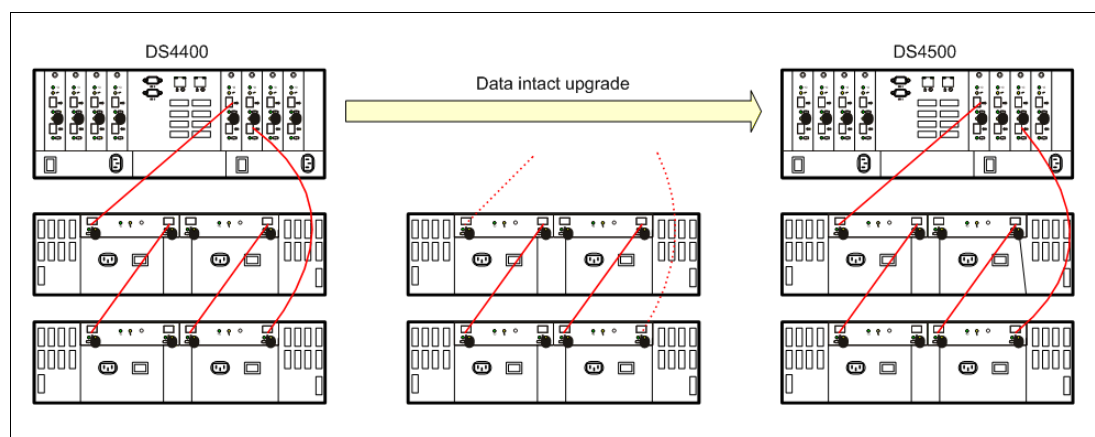
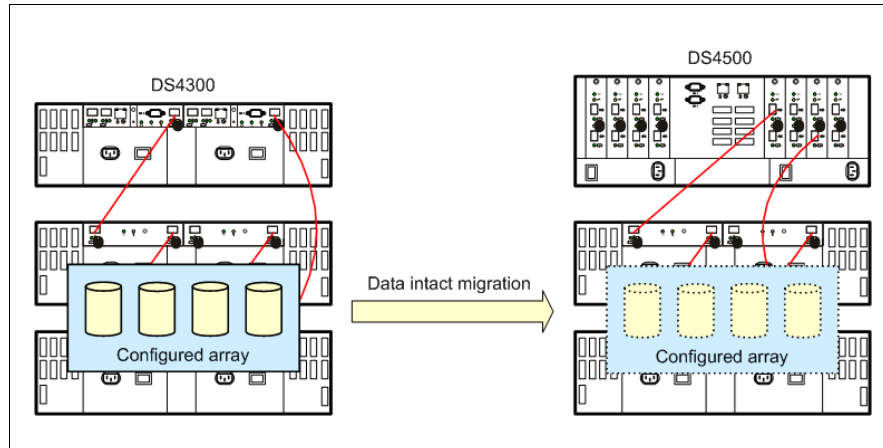

Figure 3-51 Upgrading DS4000 controllers
Figure 3-52 Relocating arrays
- ▶ Data intact upgrades and migrations: All DS400 subsystem recognize configuration and data from other DS400 subsystems so that migrations can be for the entire disk subsystem as shown in Figure 3-51, or for array-group physical relocation as illustrated in Figure 3-52 on page 130.